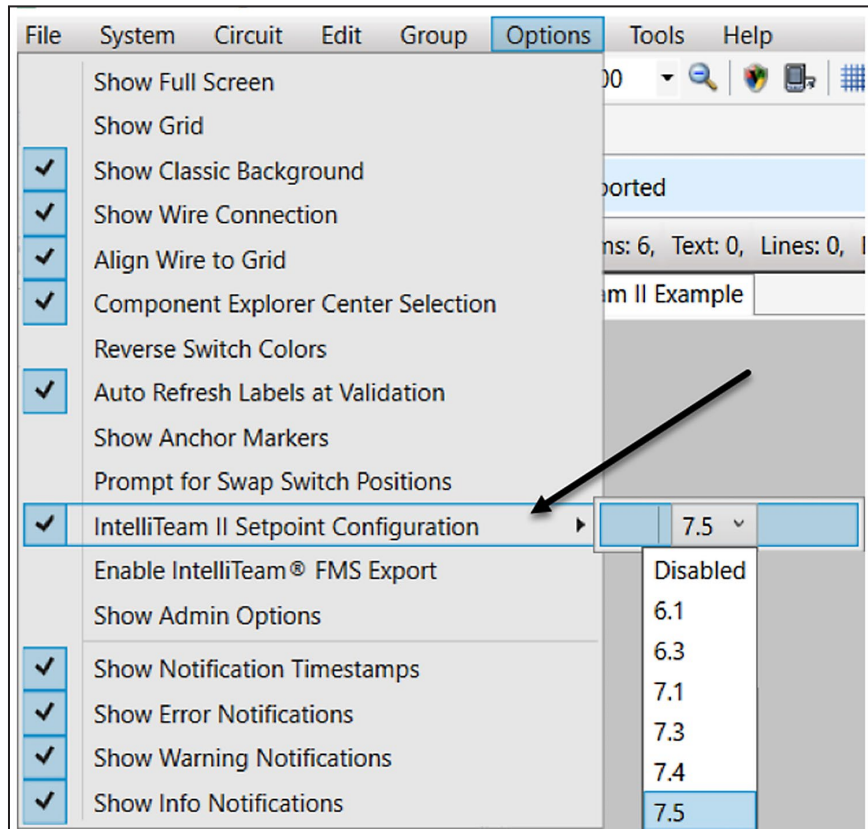

Figure 10. The IntelliTeam II Setpoint Configuration setting.
- STEP 6.** Go to the *Options>IntelliTeam II Setpoint Configuration* screen and select the firmware version of the devices in the circuit. See Figure 10.